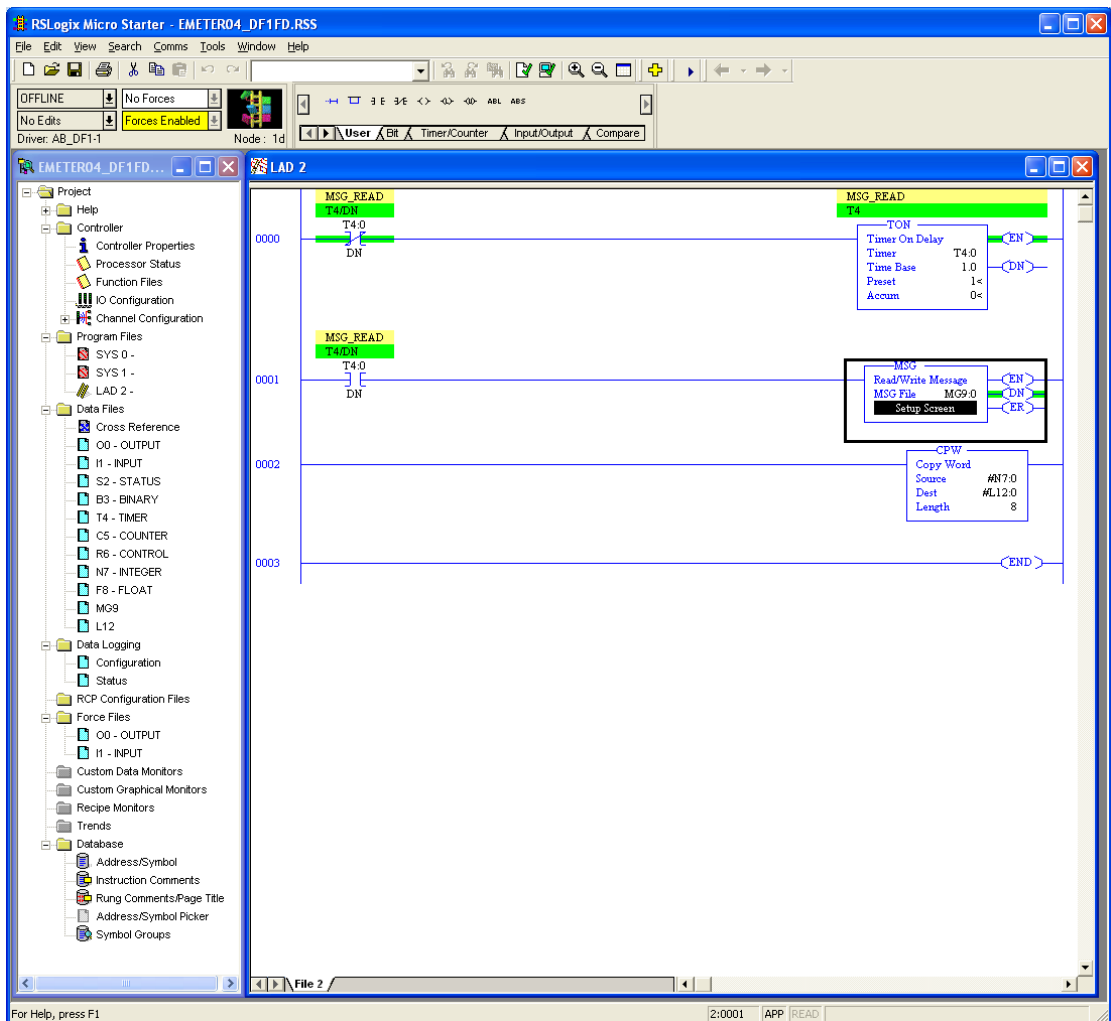

Figure 5. RsLogix Programming Environment.
Within a MicroLogix (or other Allen Bradley) PLC, communication setup is performed within the RsLogix Programming Environment. Figure 5 displays a screen snapshot of a simple ladder logic program that is designed to poll the two (2) totalization and two (2) flow-rate registers of an EtherMeter, deposit the data into the N7:xx integer (16-bit) registers, and then copy the data into the L12:xx long integer (32-bit) registers: